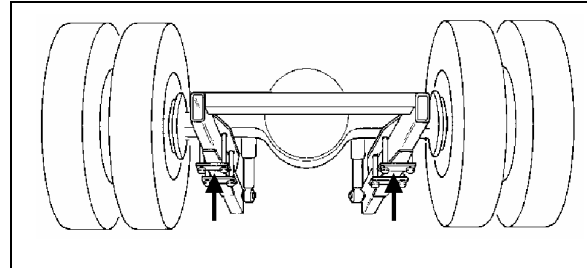
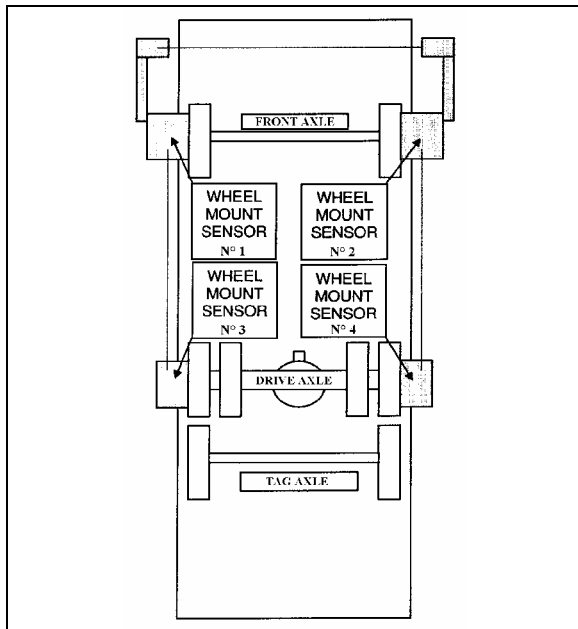

FIGURE 6: JACKING POINTS ON DRIVE AXLE H3B762
FIGURE 8: FRONT & DRIVE AXLE ALIGNMENT 11025
- FIGURE 6: JACKING POINTS ON DRIVE AXLE 4
8. Install jacks under the axle jacking points to support the axle weight (refer to figure 6).
- Remove and reinstall all wheel mount sensors on the drive and tag axes (fig. 8);
Reinstall wheel mount sensors as shown in figure 8. For example, the sensor from the right side of the front axle is mounted on the left side of the tag axle. For corresponding wheel mount sensor reference numbers, refer to figure 6.